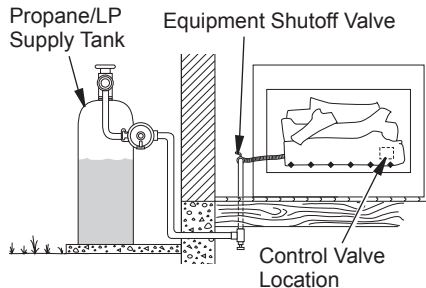

Figure 16 - Checking Gas Joints (Propane/LP Gas Only)
3. Check all joints from gas meter (natural gas) or propane/LP supply to equipment shutoff valve (see Figure 16 or 17). Apply a commercial leak detection solution to all joints. Bubbles forming show a leak.
4. Check all joints from gas meter (natural gas) or propane/LP supply to equipment shutoff valve (see Figure 16 or 17, page 15). Apply a commercial leak detection solution to all joints. Bubbles forming show a leak.